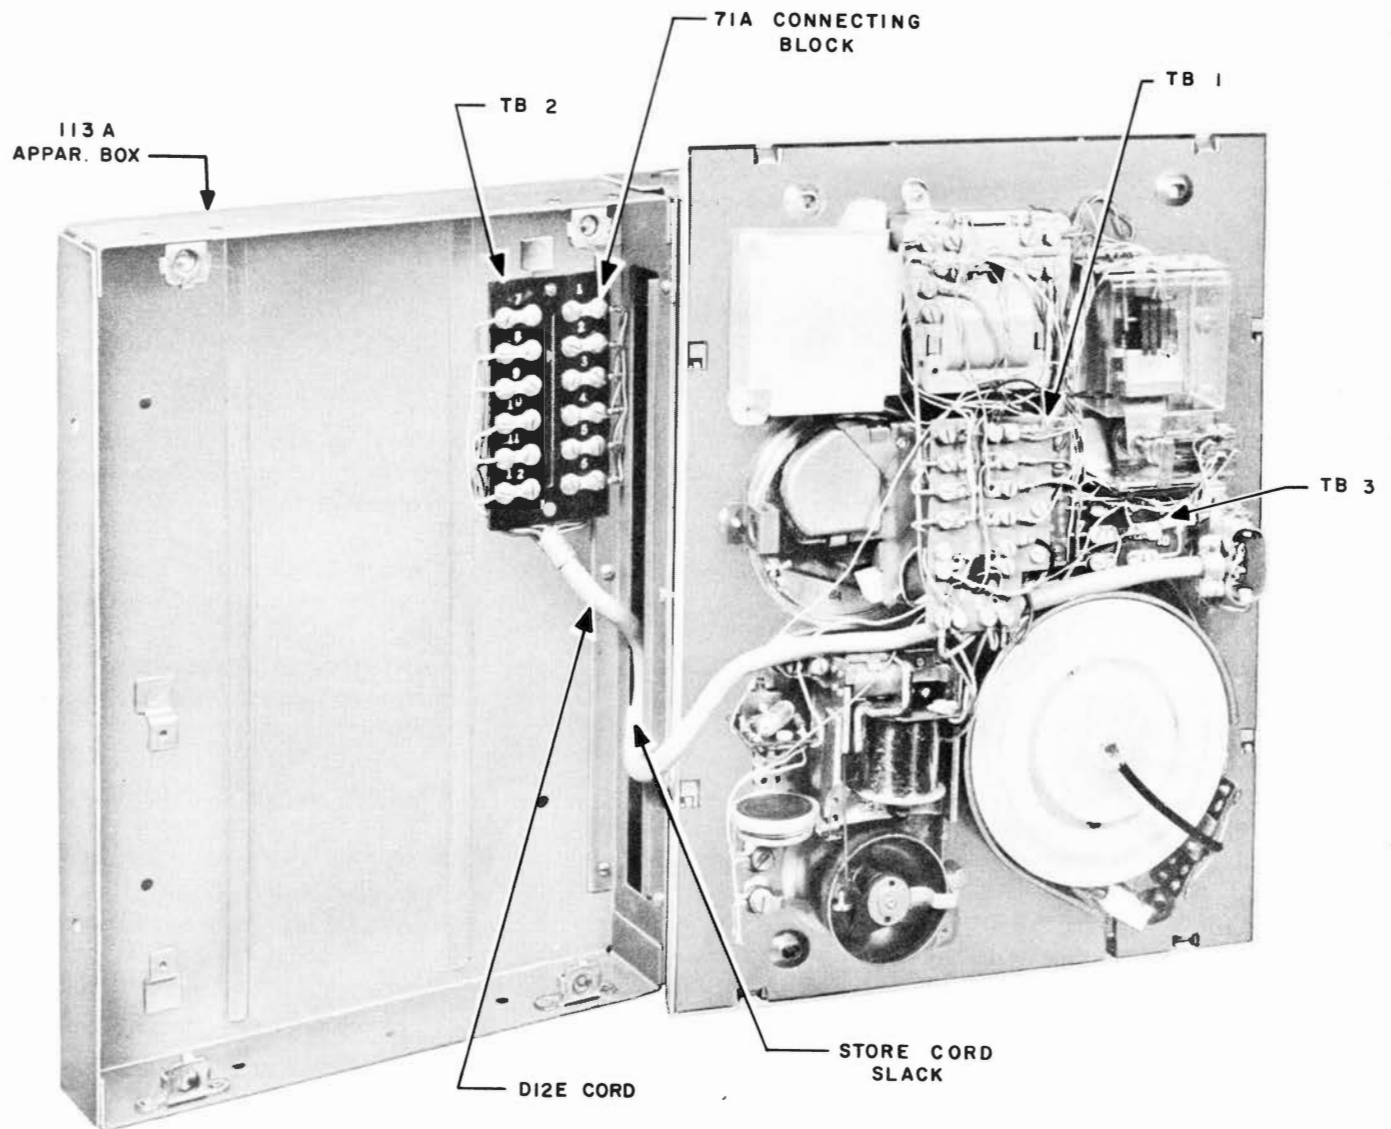

Fig. 12 — 751-Type Telephone Set With 113A Apparatus Box
2. Terminate inside wire or cable in accordance with sections covering connections for particular set. Dress slack wire or cable against back of apparatus box or in applique to avoid interference with set components. Fig. 12 illustrates a